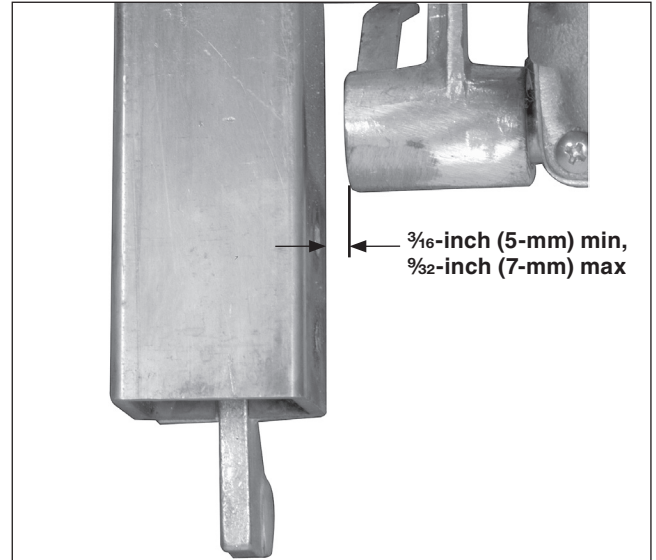

Figure 36. Verifying the gap between the end of the interrupter lever shaft and the blade assembly.
- (g) Move the blade assembly *slowly* toward the **Closed** position until the blade assembly is under the interrupter lever shaft. Verify the gap between the end of the interrupter lever shaft and the blade assembly is between $\frac{3}{16}$ -inch (5 mm) and $\frac{1}{2}$ -inch (7 mm). See Figure 36.